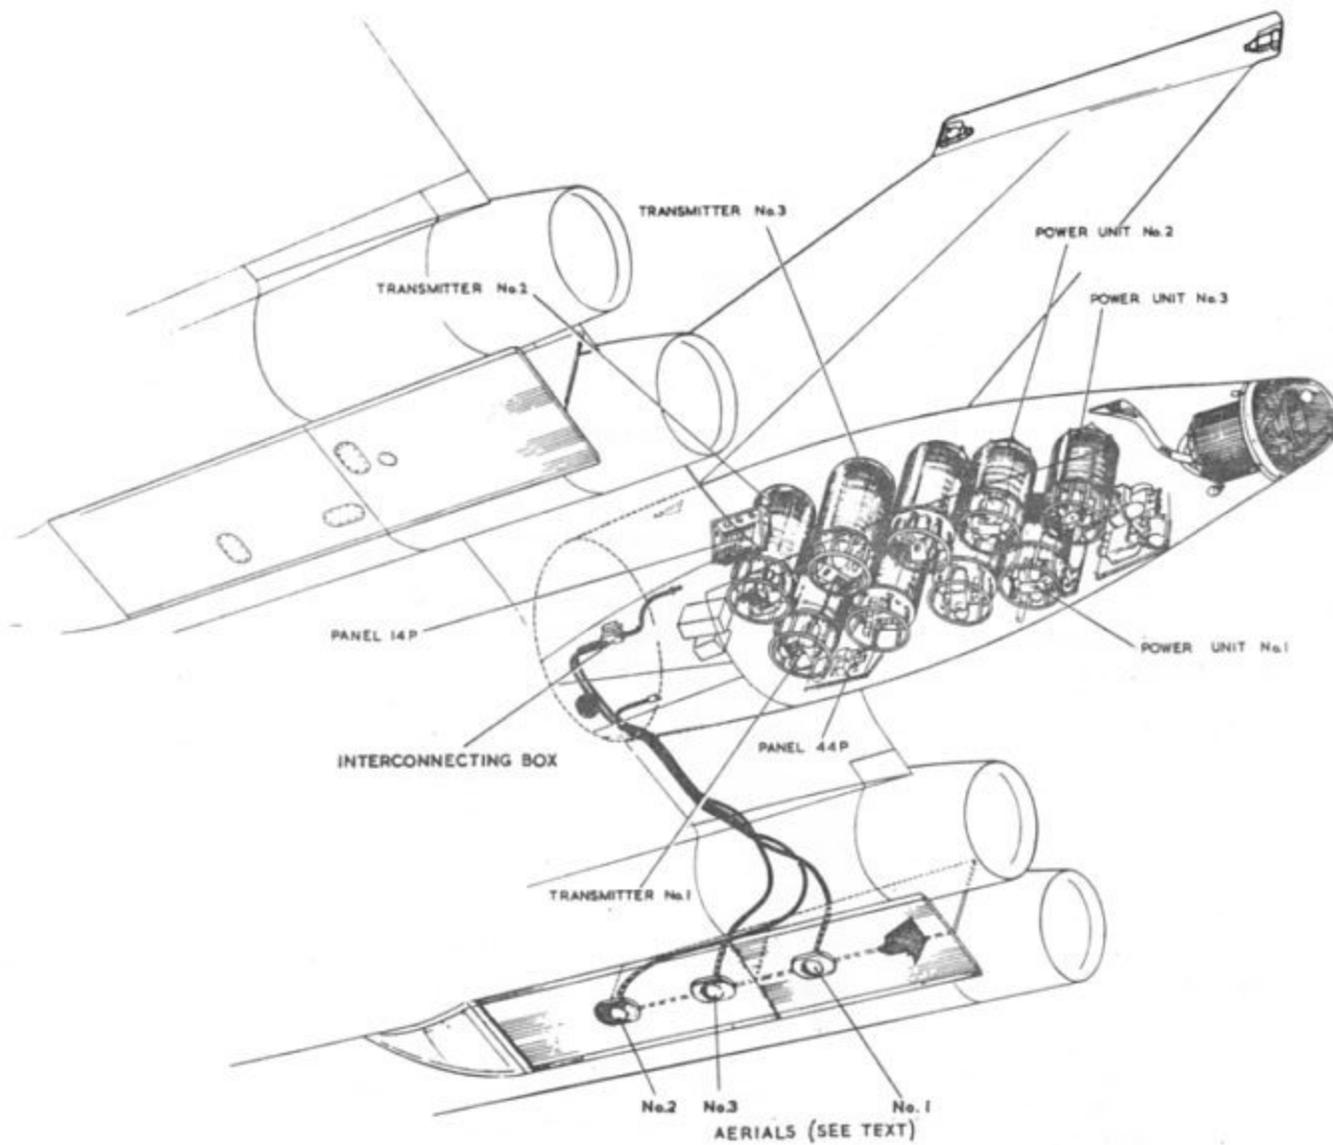

Fig.1 Location of transmitters, power units and aerials
1. The ARI consists of the following major units located as shown in fig.1 to 3.